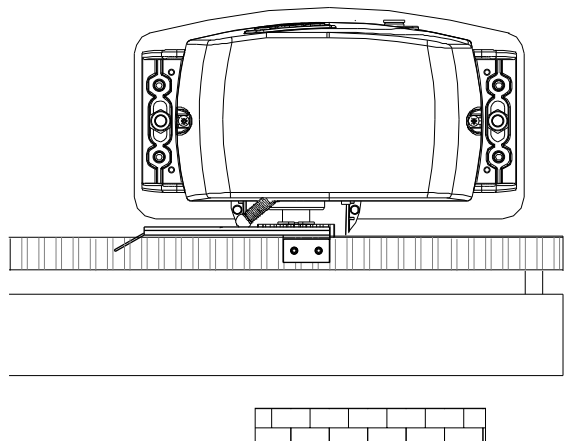
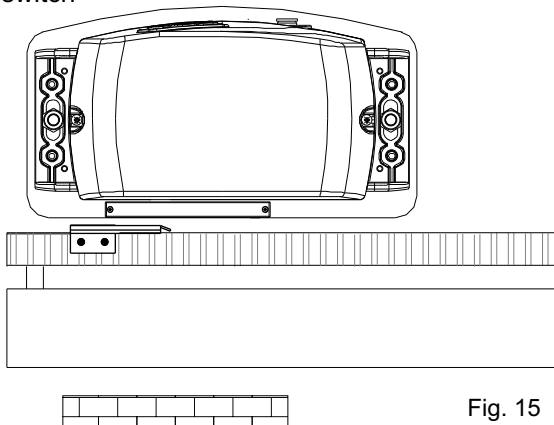

Fig. 14
Fig. 15
- Place the small plate on the gear rack so that the limit switch is (small lever in case of mechanical limit switch (Fig. 14); small pointers placed on the upper part in case of inductive limit switch (Fig. 15)) in correspondence of point X which is placed 50 mm from the folded side of the small plate (fig. 16) and fix it with the delivered screws (Fig. 17).